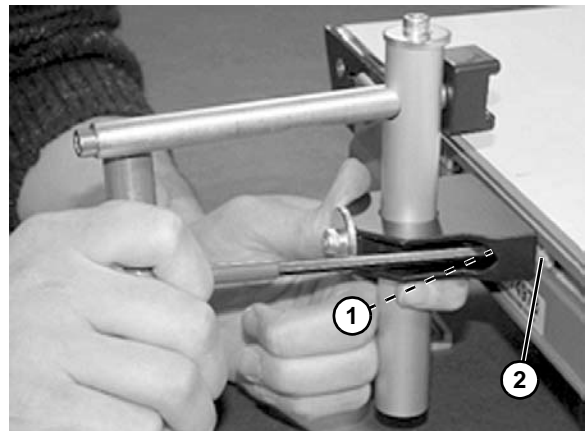

Figure 62
2. Tighten screws (**Figure 62, item 1**) making sure T-nut (**Figure 62, item 2**) rotates and engages inside of the T-slot.